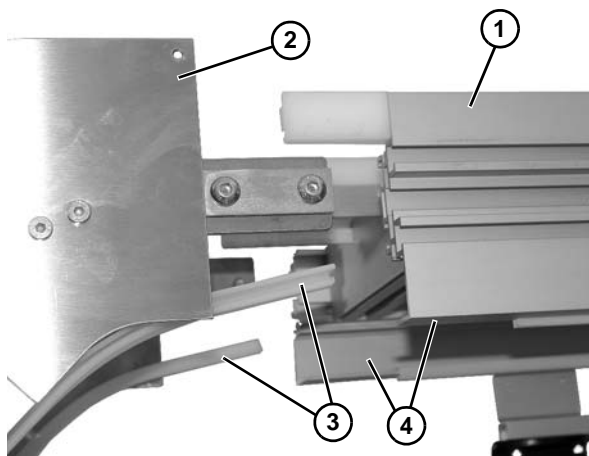

Figure 6
1. Attach upper frame (**Figure 6, item 1**) to upper knuckle (**Figure 6, item 2**), taking care to install both lower wearstrips (**Figure 6, item 3**) onto frame channels (**Figure 6, item 4**).